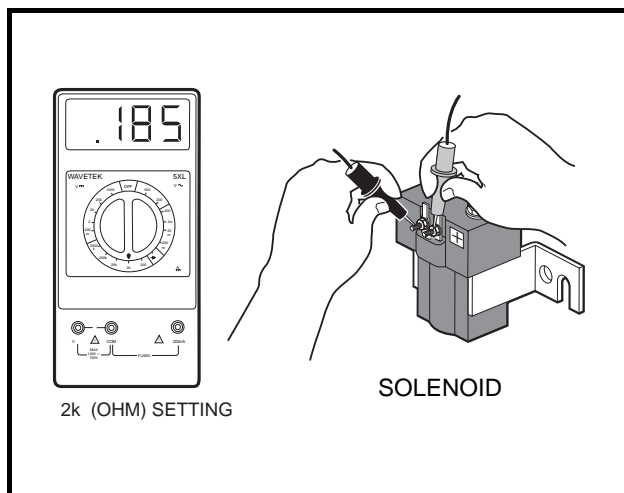

Figure 11-12 Activating Coil Test
5. Place red (+) probe of the multimeter on the positive (+) solenoid terminal. Place the black (-) probe on the other small solenoid terminal. A reading of 180 to 190 ohms should be obtained (**Figure 11-12, Page 11-19**). If not, replace the solenoid.